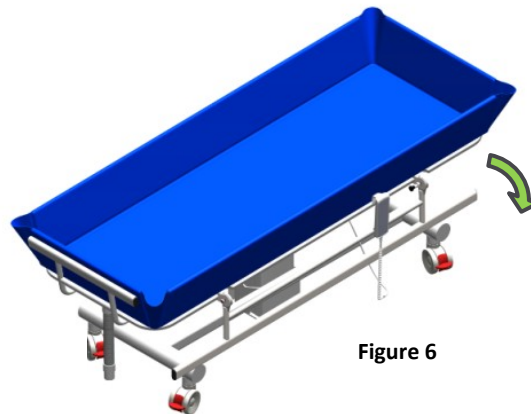

Figure 6
- ⇒ In the same movement, continue to rotate the guard round to fold down in front of the trolley (See Figure 6)